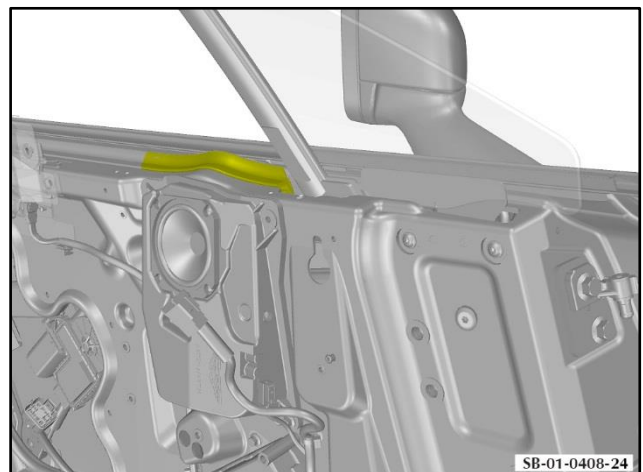

Figure 25
10. Put the inner waist weather strip back into position (refer to Figure 25).